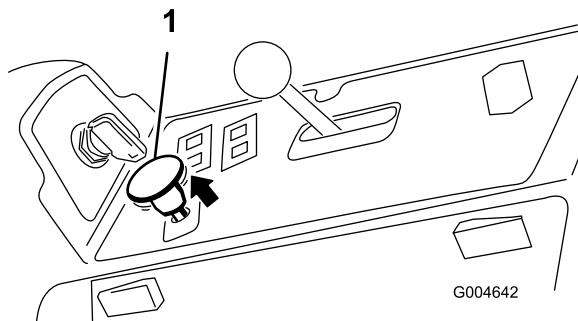

Figure 57
3. Pull up on the PTO switch to engage it (Figure 57).